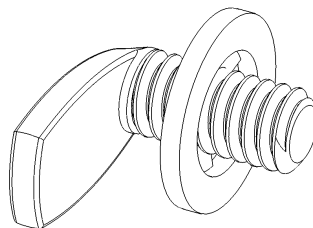

Figure 2
- C. Place the 1/4" nylon retaining washer over the 1/4" right-angle stud. Push the washer about half way down the stud threads. The side of the washer with the larger opening should face away from the tab on the stud. This is depicted in Figure 2.